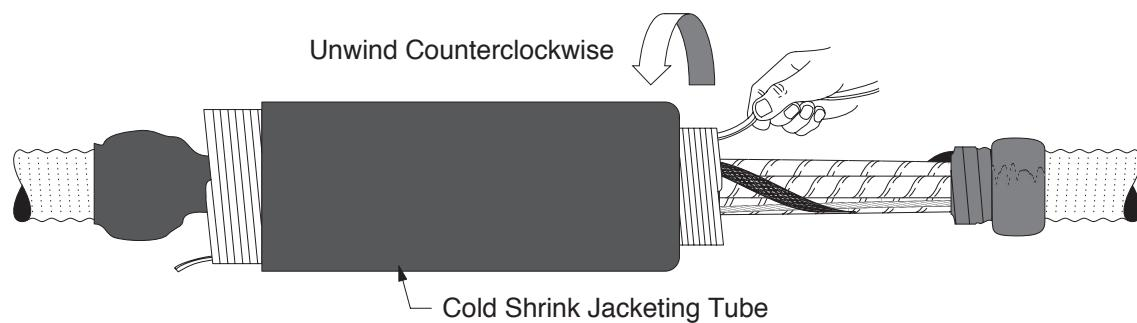

Figure 23
3.2 Begin to install the cold shrink jacketing tube by completely covering the rubber mastic, slowly pulling and unwinding the inner core counterclockwise towards the open splice area. The outer core should remain relatively stationary while unwinding the inner core. If the outer core begins to move towards the first mastic seal, gently pull the outer core and jacketing toward the second mastic seal (*Figure 23*).